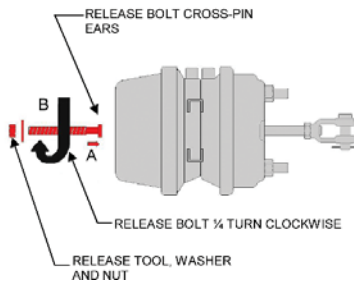

Figure 7
5. Insert the release tool bolt through the release tool access hole in the center of the spring housing and into the pressure plate inside the spring housing. Figure 7, Arrow "A."
6. Turn the release tool bolt 1/4 turn clockwise. Figure 7, Arrow "B."
2. Insert the release tool bolt through the access hole all the way into the pressure plate inside the spring housing. Figure 7, Arrow "A."
3. Turn the release tool bolt 1/4 turn clockwise. Ensure the release bolt cross-pin ears are correctly seated in the pressure plate. Figure 7, Arrow "B."